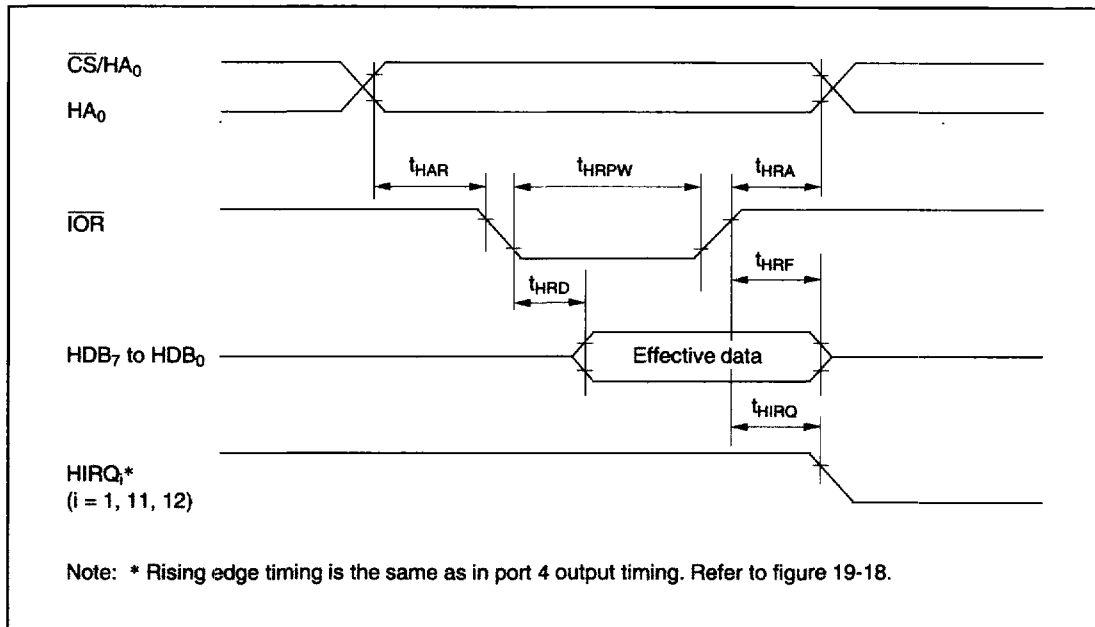

Figure 19-19 Host Interface Read Timing
19.3.8 Host Interface Timing	Figure 19-19 and 19-20